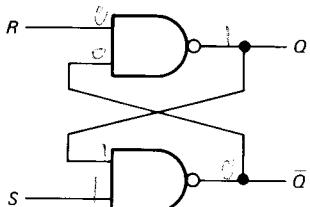

Fig. 3-31 Cross-coupled NAND gates.
- 3-18.** In Fig. 3-31, what are the outputs if $R = 0$ and $S = 1$?
- 3-19.** If $R = 1$ and $S = 0$ in Fig. 3-31, what does Q equal? \bar{Q} ?